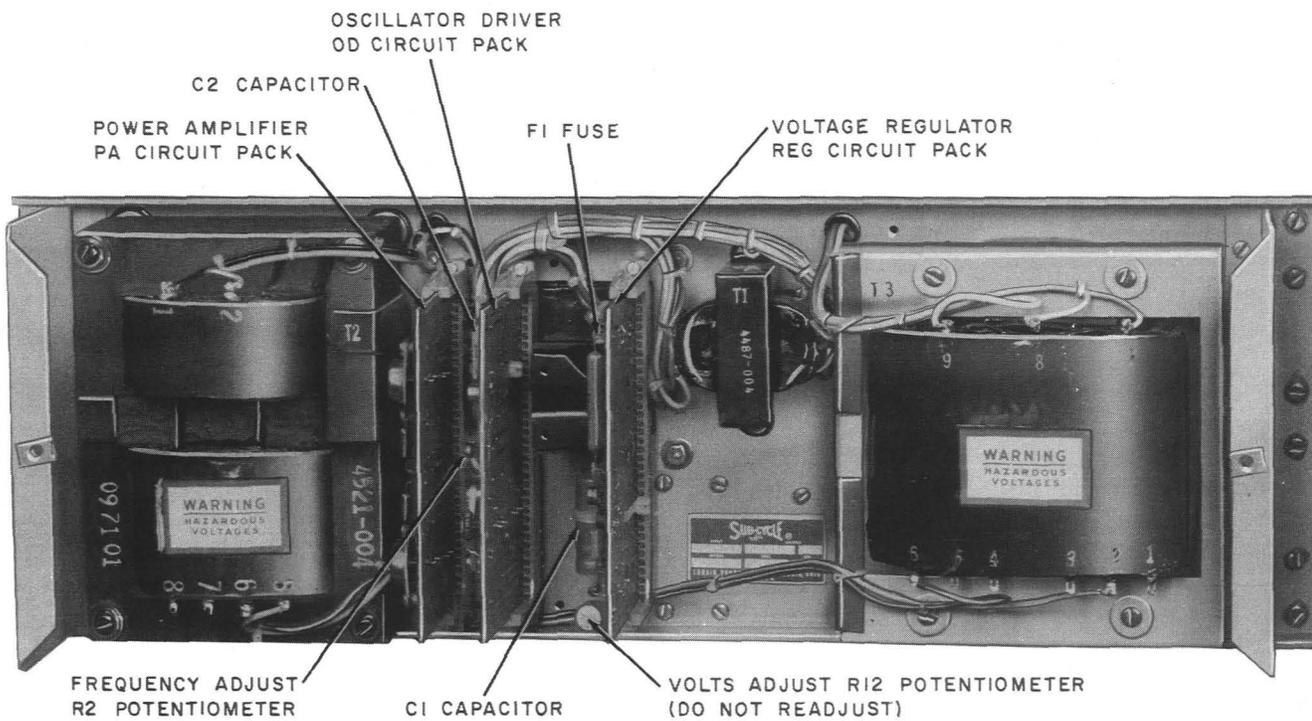
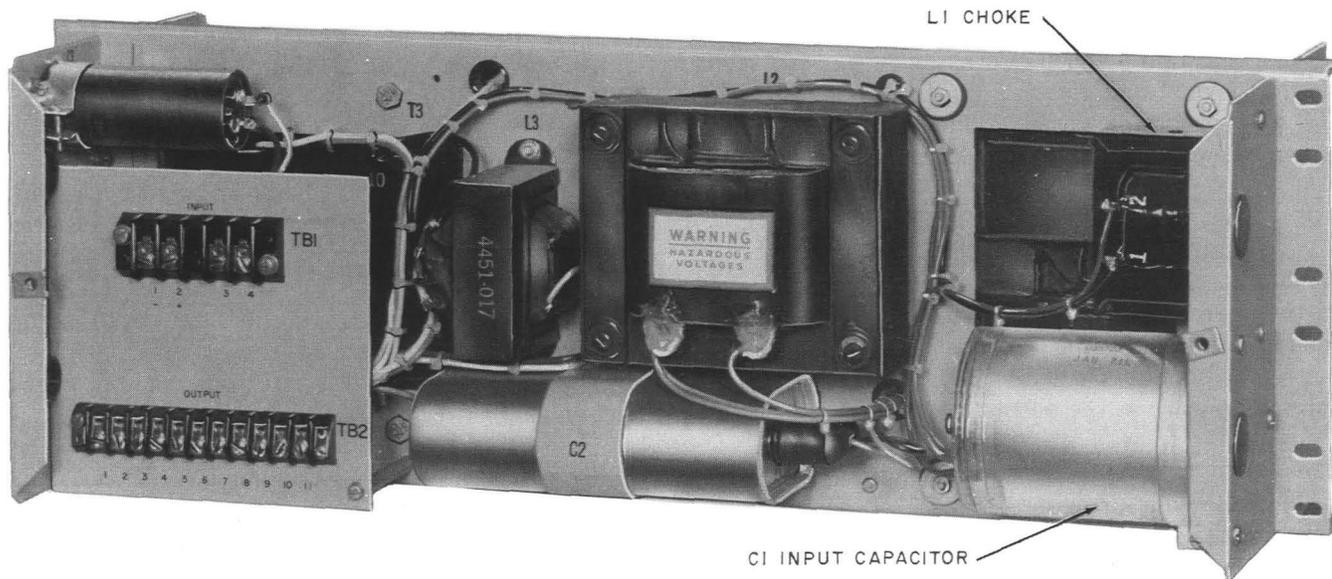

Fig. 1—J29182A-50 RINGING GENERATOR—Front View (Front Cover Removed)
Fig. 2—J29182A-50 RINGING GENERATOR—Rear View (Rear Cover Removed)
**1.08** Refer to Fig. 1 for a front view and to Fig. 2 for a rear view of the J29182A-50 ringing generator.
- (a) *Do not change the setting of the Frequency Adjust R2 potentiometer located on the OD circuit pack (See Fig. 1) unless an accurate frequency counter is connected to the generator output terminals as given in 4.03. Indiscriminate adjustment of the Frequency Adjust R2 potentiometer will result in the ringing generator output voltage going out of limits.*
- (c) *Do not change the setting of the Volts Adjust R12 potentiometer located on the REG circuit pack (see Fig. 1).*